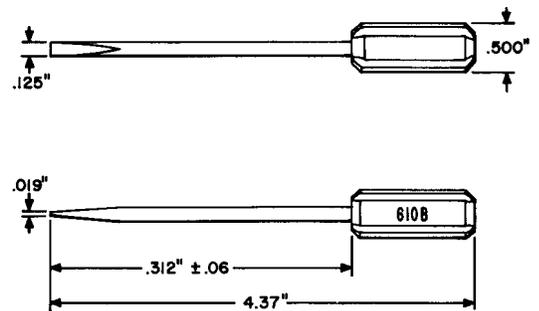

Fig. 1—610B Adjuster Tool
**2.01 610B:** The 610B tool (Fig. 1) is an adjuster used in adjusting gain potentiometers in voice frequency jack panels of L-type Multiplex Systems. The 610B tool replaces the 610A tool.